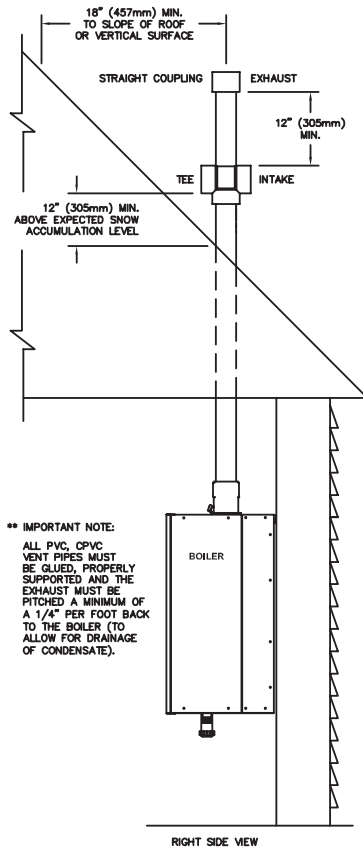

Figure 3.9: Standard Vertical Vent Installation
- Figure 3.9 shows the approved venting configuration for vertical venting using the standard fittings supplied.
- g. Refer to Figures 3.9 through 3.13 for vertical venting options using PVC or CPVC pipe.